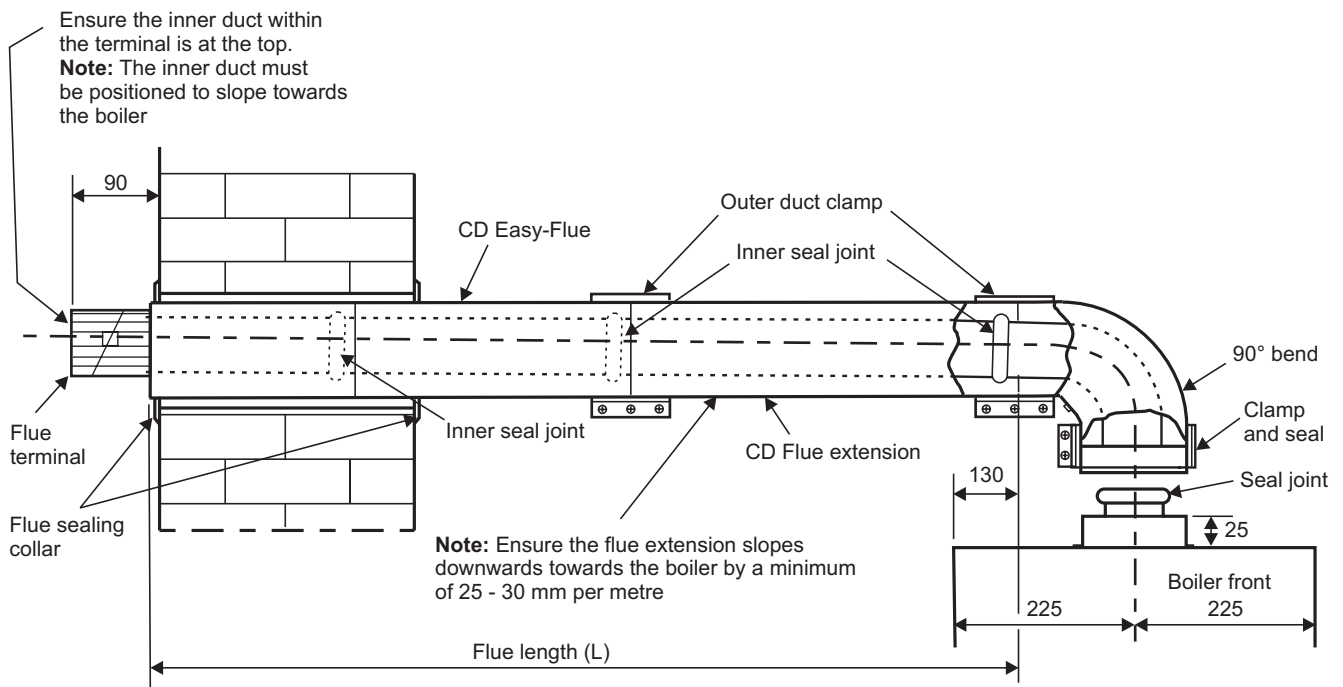

Fig. 19 - Side flue
4.7 EXTENDING THE FLUE - Fig. 19
2. If the flue is more than 0.5 m, the restrictor must be removed from the boiler flue adaptor, (see Fig. 19)
Note: Check the flue terminal protrudes 90 mm out of the wall and that the inner duct of the terminal is positioned correctly, i.e. the inner duct within the terminal is at the top. See Fig. 19.